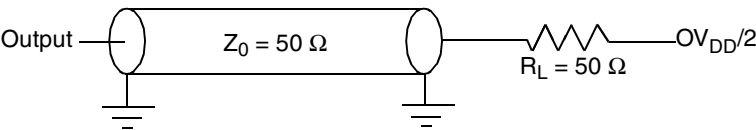

Figure 22. Local Bus C Test Load
Figure 22 provides the AC test load for the local bus.
1. All outputs are measured from the midpoint voltage of the falling/rising edge of  $t_{CLK}$  to the midpoint of the signal in question. The output timings are measured at the pins. All output timings assume a purely resistive 50-Ω load (see Figure 22). Time-of-flight delays must be added for trace lengths, vias, and connectors in the system.
2. The symbols used for timing specifications herein follow the pattern of  $t_{(first\ two\ letters\ of\ functional\ block)(signal)(state)\ (reference)(state)}$  for inputs and  $t_{(first\ two\ letters\ of\ functional\ block)(reference)(state)(signal)(state)}$  for outputs. For example,  $t_{JTDVKH}$  symbolizes JTAG device timing (JT) with respect to the time data input signals (D) reaching the valid state (V) relative to the  $t_{JTG}$  clock reference (K) going to the high (H) state or setup time. Also,  $t_{JTDXKH}$  symbolizes JTAG timing (JT) with respect to the time data input signals (D) went invalid (X) relative to the  $t_{JTG}$  clock reference (K) going to the high (H) state. Note that, in general, the clock reference symbol representation is based on three letters representing the clock of a particular functional. For rise and fall times, the latter convention is used with the appropriate letter: R (rise) or F (fall).